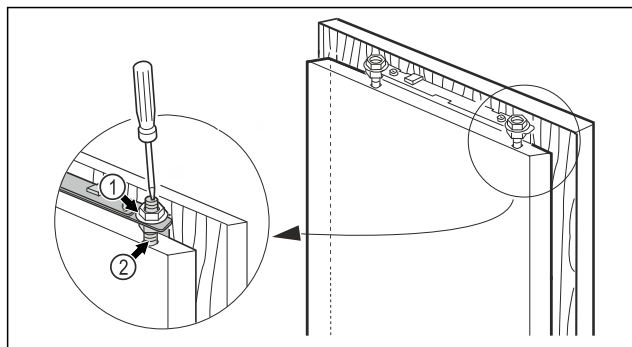

Fig. 48
- ▶ Tighten the lock nuts Fig. 48 (1) with a hexagon spanner 13, stabilising the adjusting bolt Fig. 48 (2) with a screwdriver.